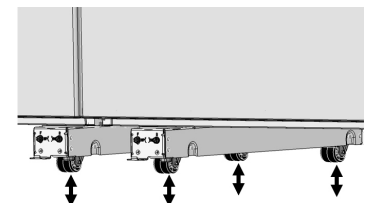

Fig. 8
- Use a flat head screw driver or a  $\frac{3}{8}$ " socket wrench to adjust the front bolts of the Leveler Assemblies (Fig. 8). Raise or lower the front and back wheels as needed until the unit rests properly in the cabinet space.